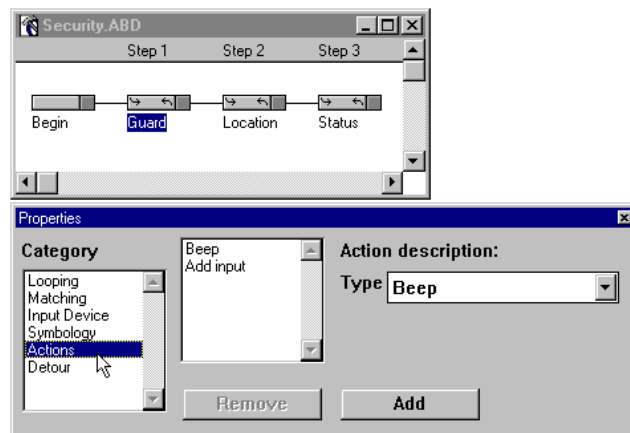

Figure 3-23 “Guard” Handler - Actions Property
21. Select **Actions** from the **Properties** window (Figure 3-23).